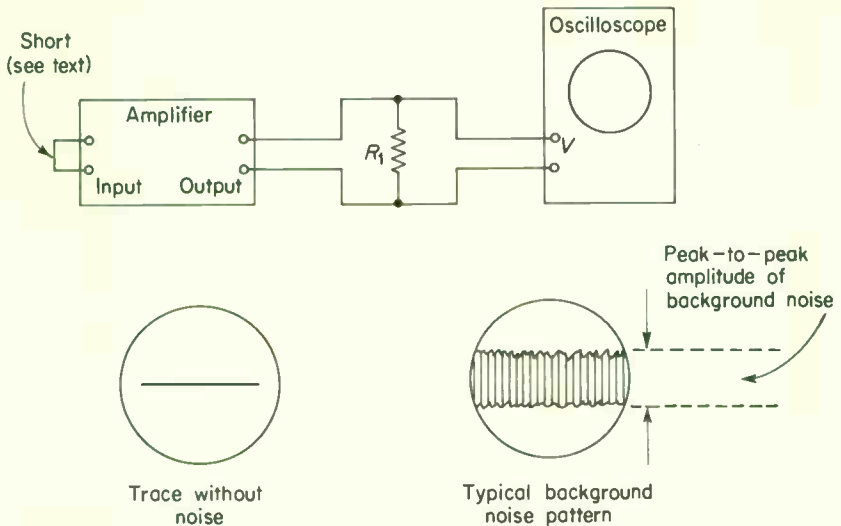

Fig. 10-3. Measuring amplifier noise and hum with an oscilloscope.
1. Connect the equipment as shown in Fig. 10-3. The load resistor  $R_1$  is used for power amplifiers and should have a value equal to the amplifier's output impedance.